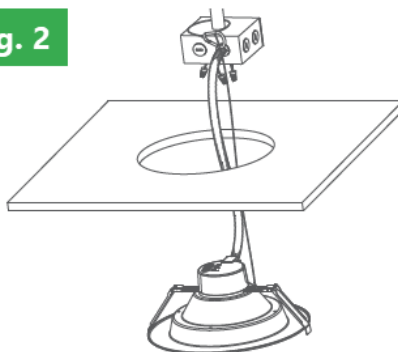

Fig. 3
4. Remove the junction box faceplate. Disconnect all wires to the ballast and remove the ballast from the J-box. Connect incoming power (**black to line, white to common and green to ground**). For 0-10V dimming circuits, connect **grey to grey and purple to purple**. Reattach the J-box faceplate. (Fig. 3)
4. Adjust the fixture power to desired lumen output by sliding the selector switch on the right. Adjust the color temperature to desired one, by sliding the selector switch on the left. (Fig. 3)